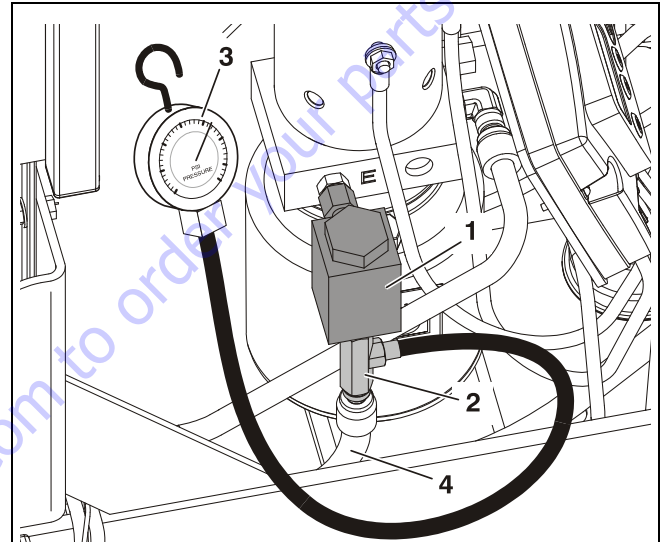

**Figure 3-6. Typical Hydraulic Pressure Gauge Installation**
1. Remove the hydraulic oil filter and install a t-fitting between the pump and the extend line to connect a hydraulic pressure gauge as shown in Figure 3-6., Typical Hydraulic Pressure Gauge Installation